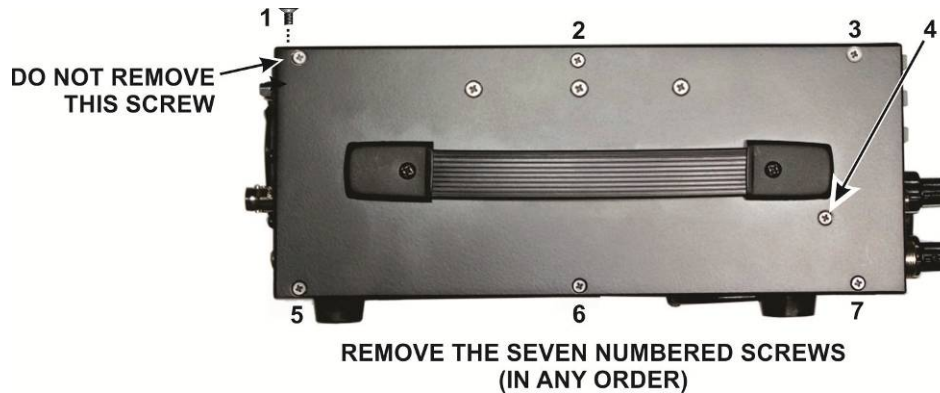

Figure 2. Removing the K3 Left Side Panel.
Remove the seven screws shown in Figure 2 to free the panel and lift the panel off of the K3. Note that Screw 1 is not the screw through the side panel, but is the screw through the lip at the top of the rear panel. This will free the 2D fastener inside to come off with the side panel, which will make removing the existing KIO3 board easier, especially if you have the KRX3 sub receiver installed. If the K144XV 2-meter option is installed carefully shift the panel as needed for the K144XV module to clear the chassis stiffener bar.
- Replace the side panel on the K3 (see Figure 2 on page 6). If the K144XV is installed: